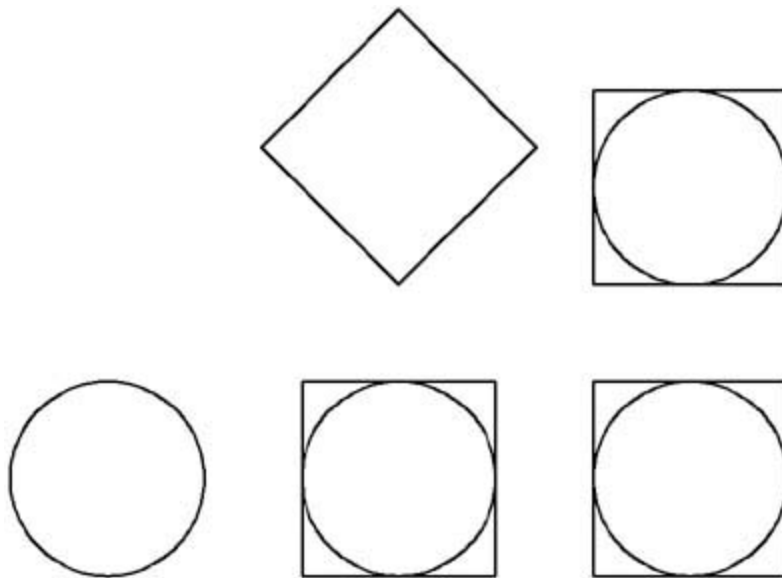

Figure 4-16
- 7 Save your drawing. Your drawing should resemble Figure 4-16.